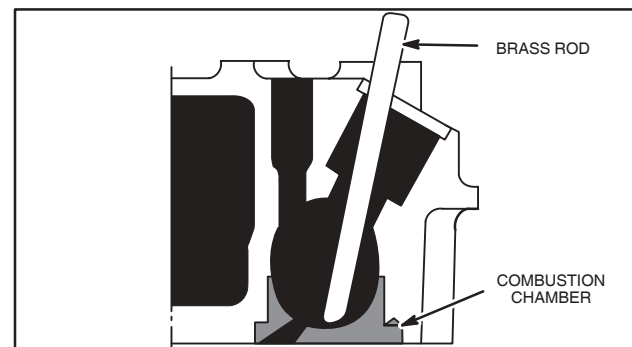

Fig. 15 – Remove Combustion Chamber
2. Remove combustion chamber, Fig. 15.